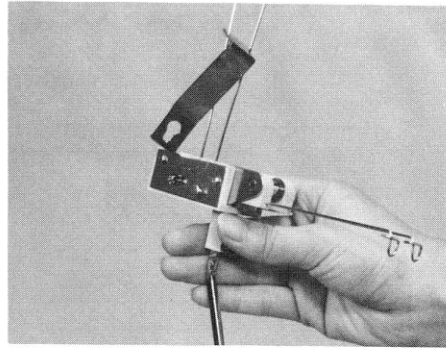

Fig.18
12. Fit overhead feeder unit to the top of the rod. (Fig.18)